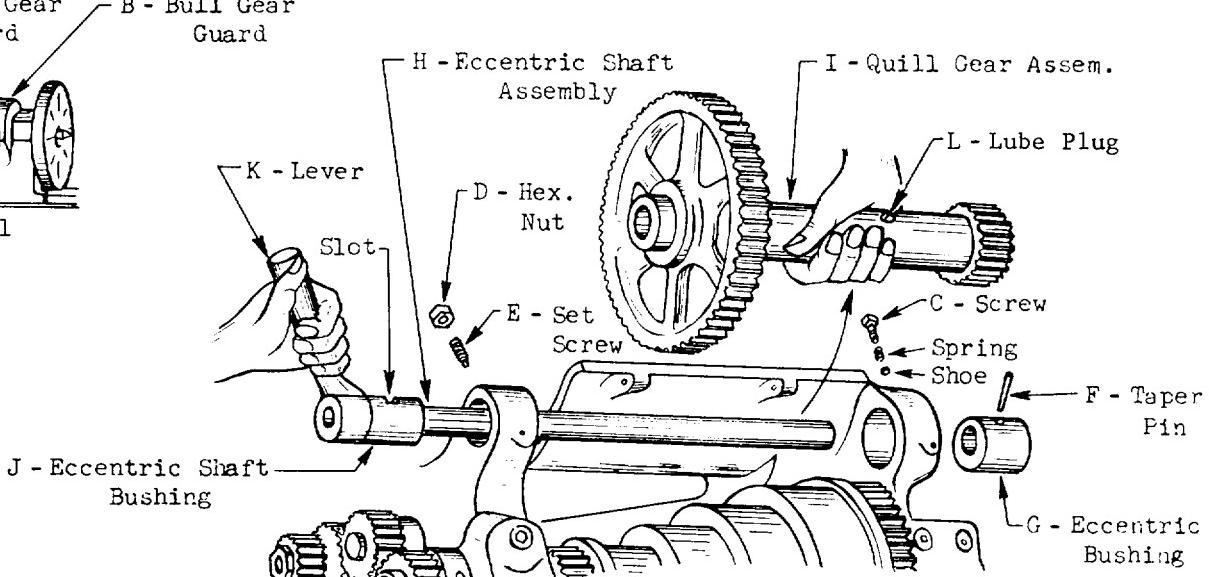

Fig. 2
2. Loosen screw C (Fig. 2).
3. Remove items D thru I (Fig. 2) in alphabetical order.